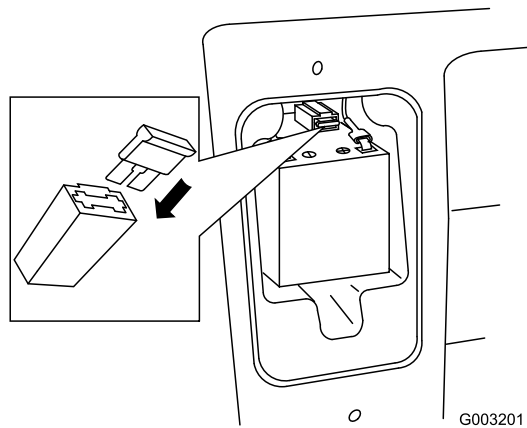

Figure 6
2. Install the fuse (Figure 6).